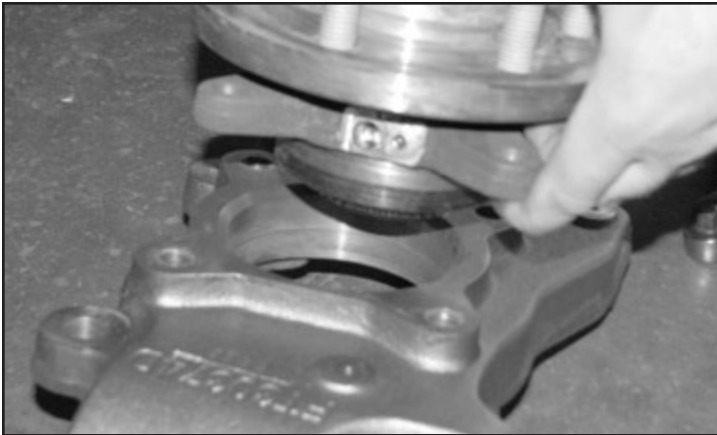

FIGURE 47 - STEP 43
43. Locate the Fabtech driver side spindle (FTS30494D) and install the factory hub. Torque the four 14mm bolts to 160 ft-lbs. **SEE FIGURE 47**